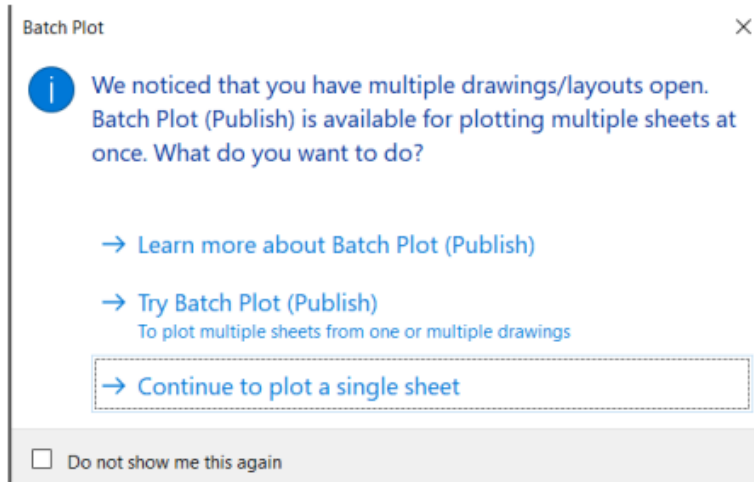

Figura 7.17. Continua to plot a single sheet
1. Selección : continue to plot a single sheet. (figura 7.17)